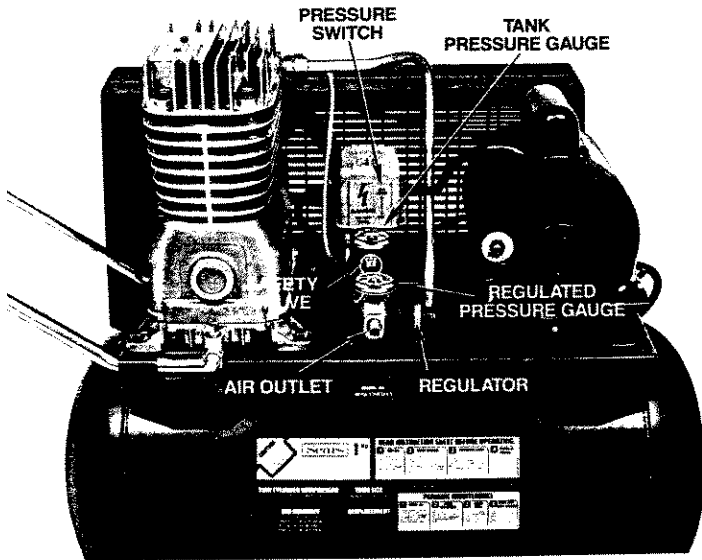

Figure 3
The manifold (28) is located on the top of the unit between the motor and air compressor pump. On the manifold is the pressure switch (20), safety valve (29), regulator (46) and pressure gauge (27). The gauge shows the air tank pressure. The air pressure coming from the air tank is controlled by the regulator knob. Turn the knob clockwise to increase pressure and counterclockwise to decrease pressure. Refer to Figure 3.